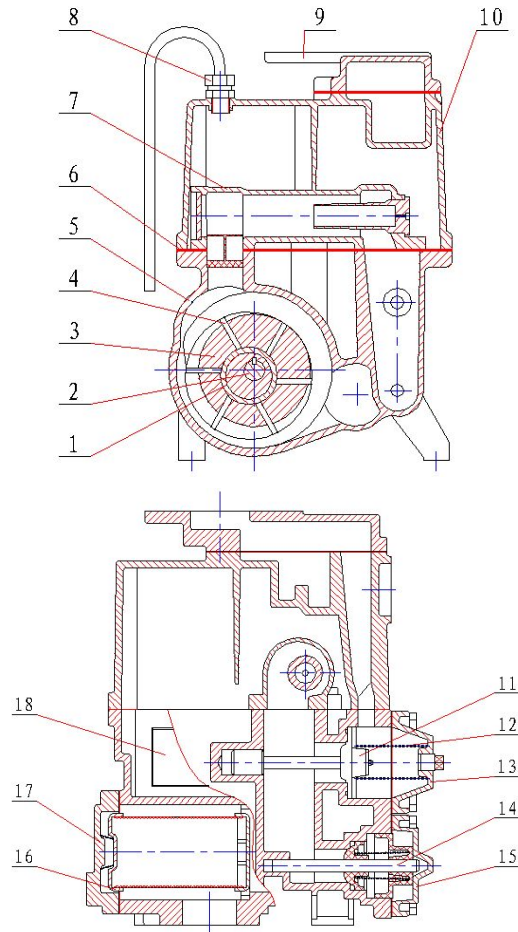

Fig. 2 Combined pump
2. The base of the fuel dispenser shall be installed to a special cement foundation and secured with anchor bolts or expansive screws, with the installation dimensions for different types of units shown in Figures 2 and 3. The cement foundation shall be provided with holes for hose DN40mm (1.5 inch), cable and earthing lines. The holes shall be filled up with sands afterwards.